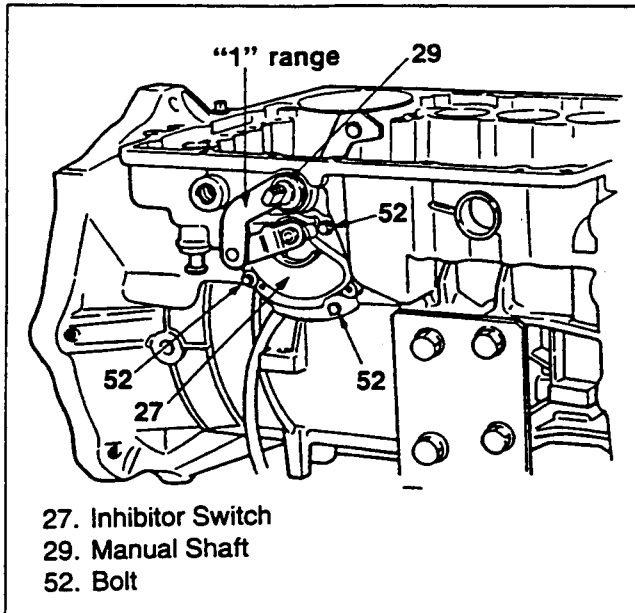

Figure 45. Inhibitor Switch Removal
Inhibitor Switch (Figure 45)
2. Remove bolts (3 pcs), and then remove the inhibitor switch (figure 45).